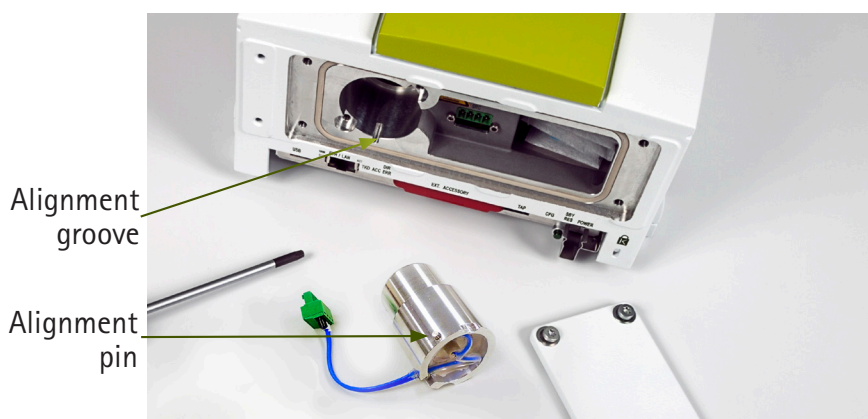

Figure 23. IR source removed from instrument
8. Secure the source by fastening the two Torx® screws (Figure 23) .